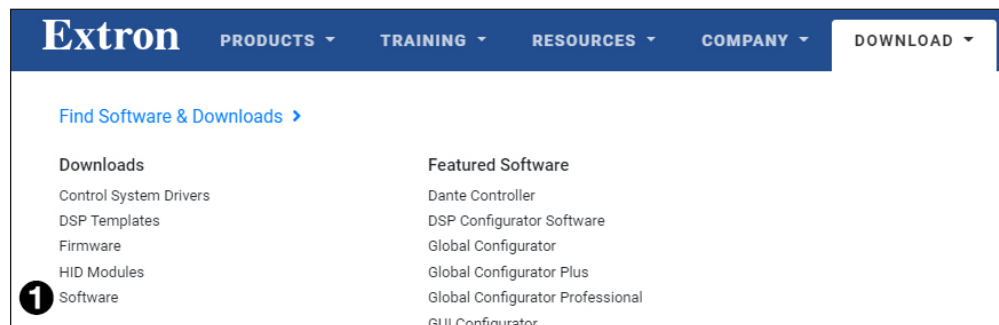

Figure 76. Location of Software on the Website
The Extron Button Label Generator is available on the Extron website, www.extron.com, under the **Download** tab. Click the **Software** link (see figure 76, ❶), and download and install the program on your PC.